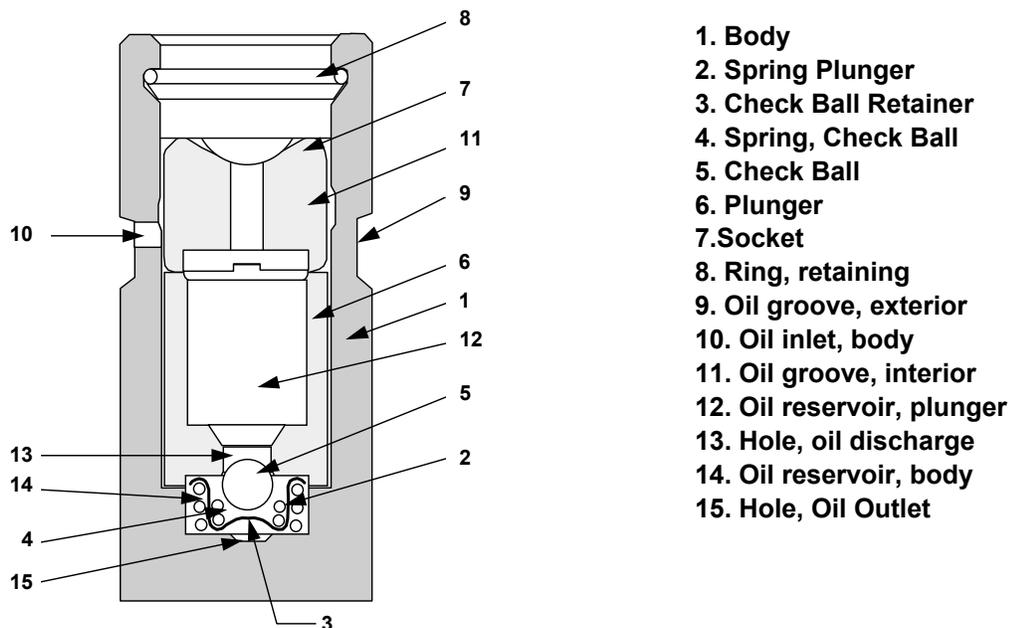

FIGURE 20-6. HYDRAULIC TAPPET DESCRIPTION
Hydraulic Tappet - See Figure 20-6. The barrel type hydraulic valve tappet consists of a steel body (1), an expanding spring (2), a check valve assembly (3, 4 and 5), a plunger (6), a socket (7) and a retaining ring (8). A groove (9), around outside of the body picks up oil from the crankcase oil gallery. From the exterior groove oil is directed to the interior body groove (11) through hole (10) and from the interior groove through the hole to the reservoir (12). Oil is withheld from reservoir (14) by check valve ball (5) which is supported by a spring (4) in the housing (3). The check valve is opened by outward motion of the plunger under pressure of the expanding spring whenever a clearance occurs in the valve train. The reservoir is kept full of oil which transmits lifting force from the body of the plunger. The plunger and socket are selectively fitted to the body to permit a calibrated leakage so the lifter will readjust its effective length after each cycle while the cylinder valve is closed to return "lash" in valve train to zero. The barrel type hydraulic tappets may be removed and replaced without complete disassembly of the engine.